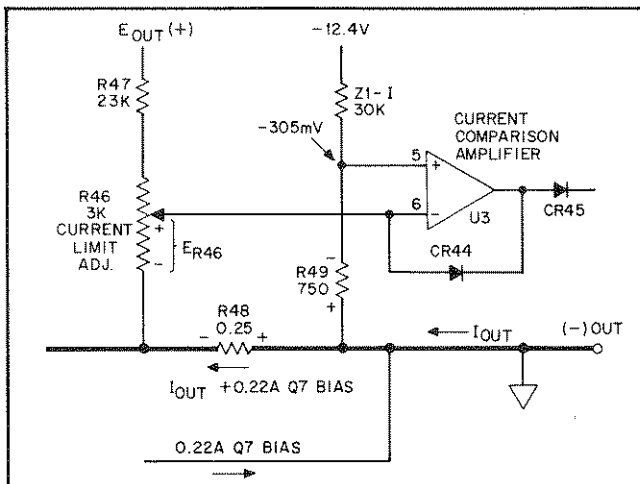

Figure 4-1. Foldback Current Limit Circuit in 6V Supply
4-27 **Current Foldback Circuit.** (For this discussion refer to the Figure 7-1 schematic and to Figure 4-1.) The differential input signal to the current comparison amplifier is the algebraic sum of three circuit voltages:
2. The voltage across the lower part of R46 (see Figure 4-1).  $E_{R46}$  is proportional to the regulator output voltage and equals  $440\text{mV}$  when the supply output is 6 volts.